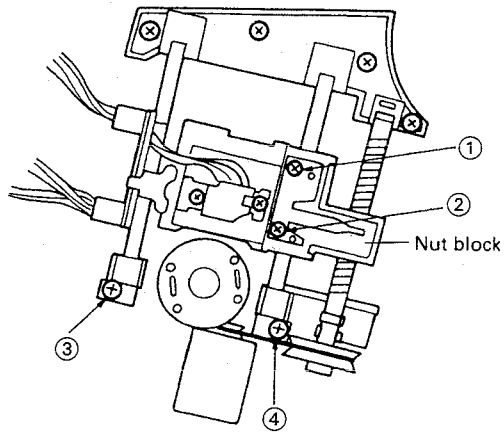

Fig. 12
- 4) Remove two screws ① and ②, and take off the nut block. (Fig. 12)
- 6) Remove the screws ③ and ④ fastening two shafts supporting the pickup.